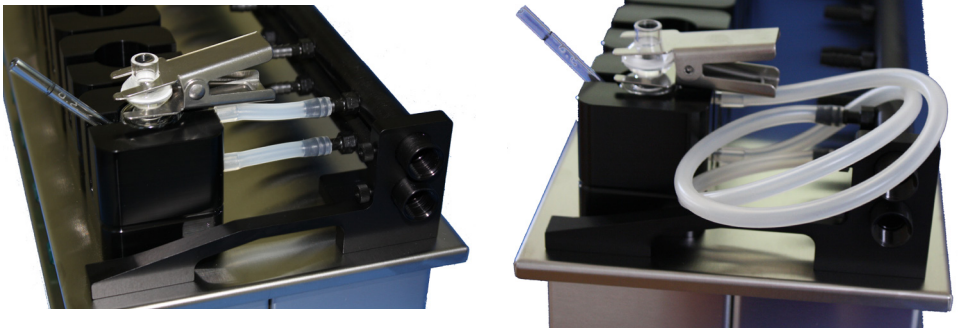

Figure 2 - Connecting cells to the manifolds - (left to right) Very short sections of latex tubing, and long lengths of tubing.
Place the Franz Cells into the cell holders of the stirrer. The barbed fittings of the manifolds can be connected with very short sections of the latex tubing supplied with the stirrer. Or, long lengths of tubing (as shown in Figure 2 below) may be used, which is probably the preferred method. In either case the cells need to be removed from the cell holders from time to time for cleaning or to remove bubbles from beneath the membrane. Quik-Disconnect® connectors may be purchased separately to facilitate frequent removal and replacement of the cells.
4. A roll of 3/16" ID soft silicone tubing, 3 feet for each cell, 9 feet for 3-station stirrers, that the user will connect the Franz Cells to the manifolds with, either the straight short direct way or with the large loops (See Figure 2 photo).